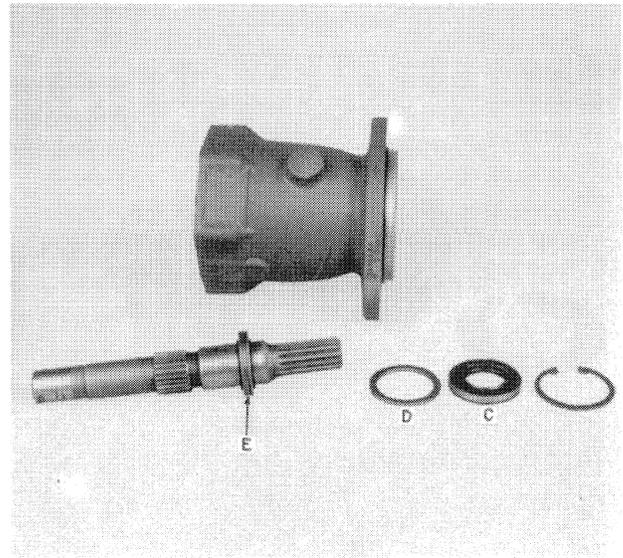

FIGURE 1-13
10. Remove shaft seal, C, Figure 1-13, from the housing. Remove washer, D, and then remove drive shaft from housing.
11. Remove the snap rings, thrust washers, and thrust bearing at E, Figure 1-13.
2. Install the snap rings, thrust bearing, and thrust washers, E, Figure 1-13, on the drive shaft.
3. Install the drive shaft in the housing and install washer, D, Figure 1-13.